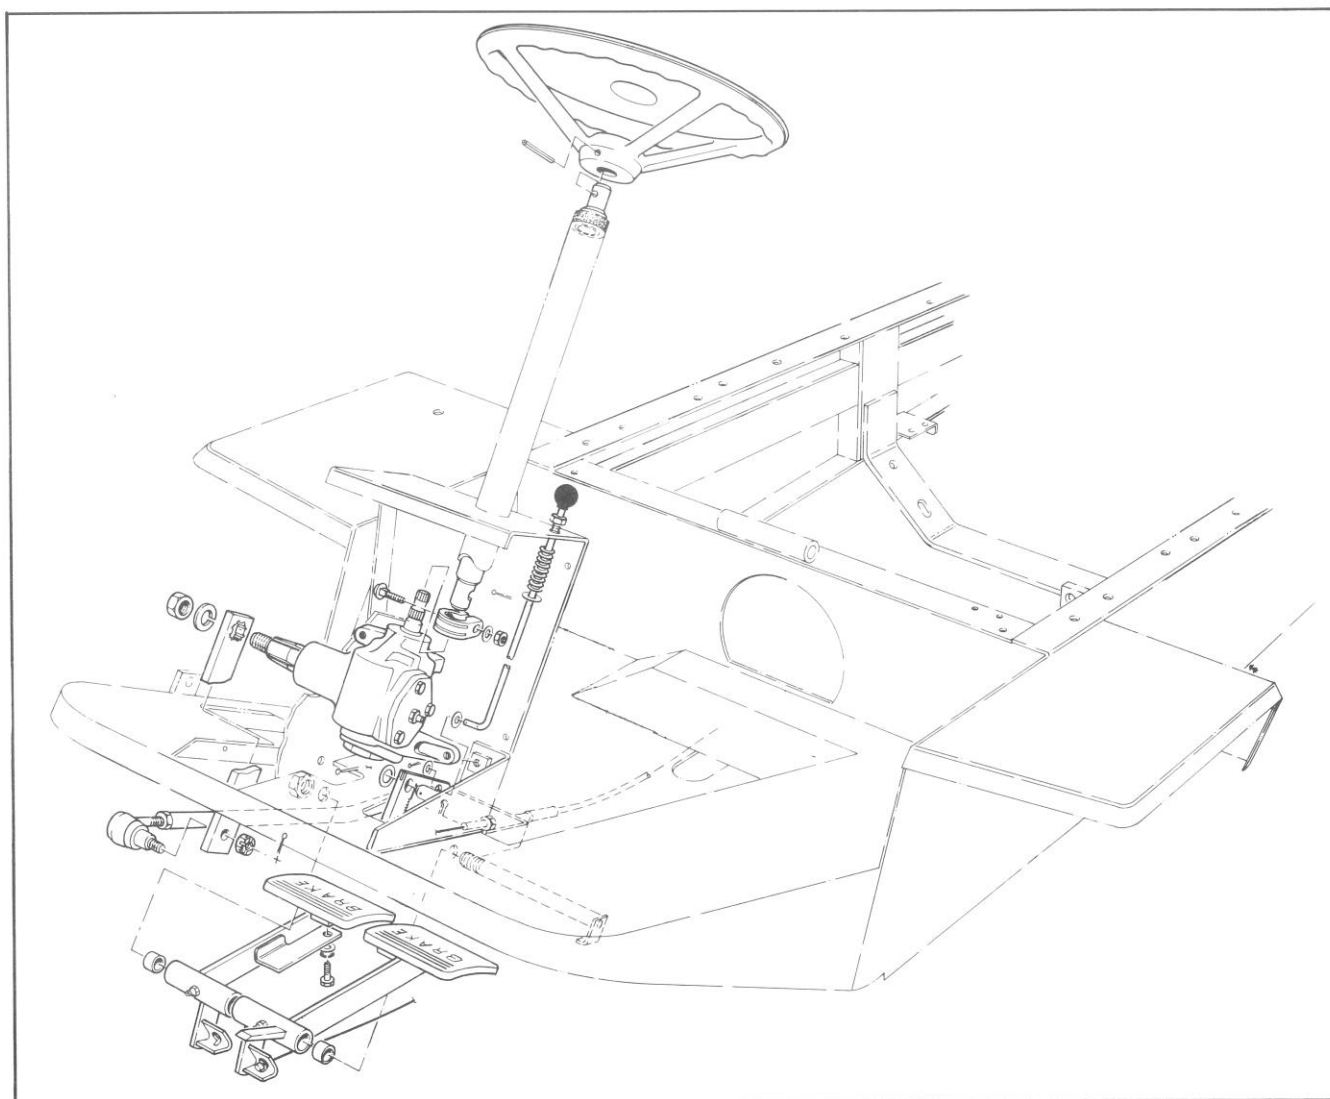

Figure 1
2. Remove brake cables from brake pedals and anchor bracket located below floor panel (Fig. 1).